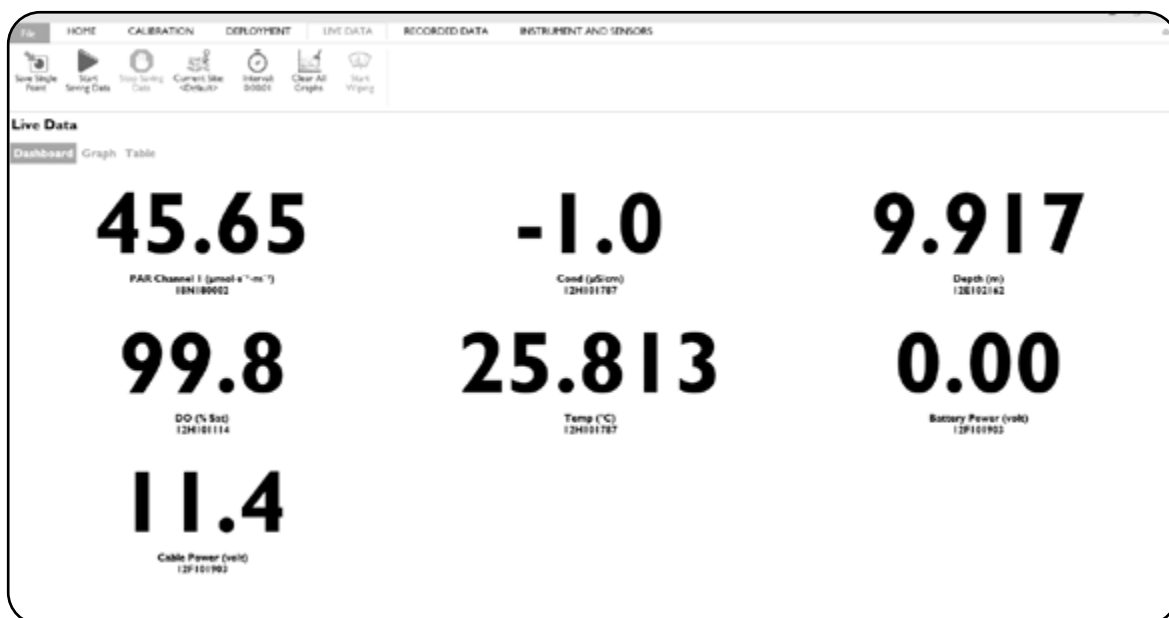

Figure 12 PAR data will begin to show up in your Kor Dashboard
- Now your PAR sensor(s) are ready to use. You can now see PAR data begin to show up in your Kor Dashboard (example shown in figure 12).